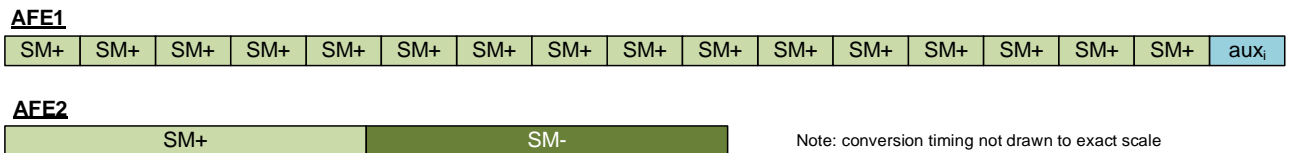

Figure 27: Sequencer Illustration for AFE1 and AFE2
The fast reaction of the bridge sensor input is achieved through AFE1, which runs at low resolution (10 bit) and highest update rate. AFE2 runs on high resolution (SM+/SM- sequencer, 16bit) and a slower update rate according to Table 13. Figure 27 illustrates the sequence of AFE1 and AFE2 measurements.
- The aux_i cycle in the sequencer becomes automatically activated if T1 or PTAT are selected. If no temperature sensor is selected, the aux_i cycle shown in Figure 27 is removed.